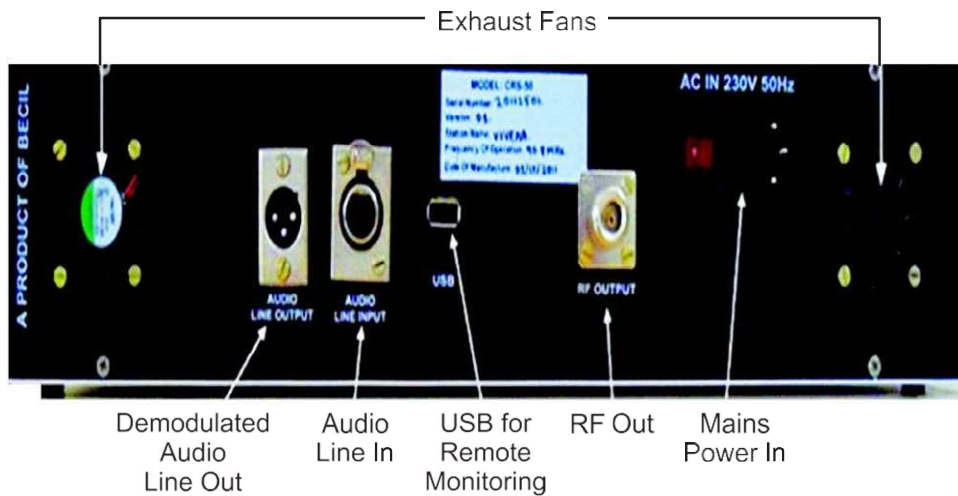

Figure 27.2: Back panel view of 50 Watt FM transmitter (BECIL CRS-50)
Figure 27.2 illustrates the back panel connectors of a typical 50 Watt FM transmitter (BECIL CRS-50).
Looking into the Figure 27.2, you should note that XLR (F) connector has been provided for 'Audio Line In' whereas XLR (M) connector has been provided for demodulated audio output. This demodulated output is provided for monitoring and measurement purposes. Also note that for RF output, N (F) type of connector has been provided. USB connector has also been provided in this transmitter for remote metering and monitoring purpose.